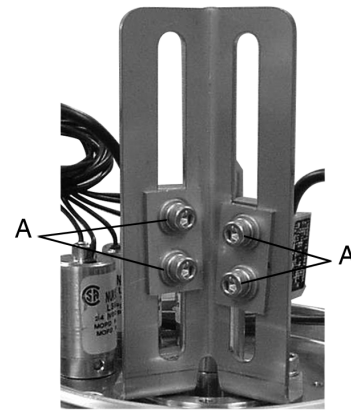
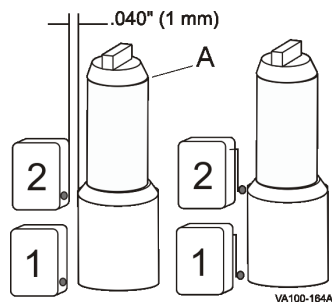

Figure 52: Switch Adjustment
Figure 53: Valve Open Adjustment
1. Raise the stem to open, loosen the cap screws holding the switch blocks (Figure 52, item A) with a 9/64" allen wrench and slide the switches to set the distance between the switches and the stem shaft at .040" (1 mm) (Figure 53).
2. Hand-tighten the cap screws (Figure 52, item A) to hold the switch position.
3. With the stem raised, adjust the vertical height of the upper switch target to slightly below the stem shoulder (Figure 53). Tighten the cap screws securely.